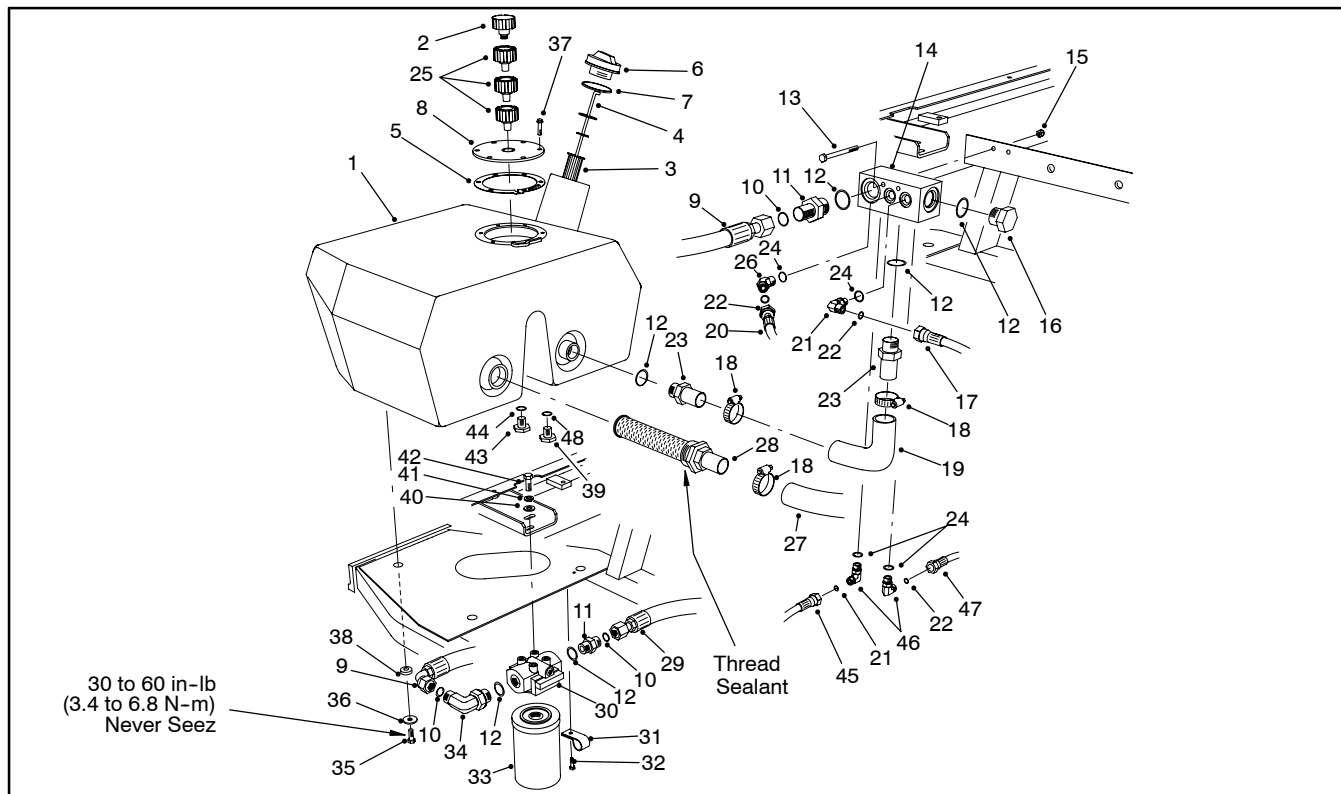

Figure 107
4. Remove oil tank using Figure 107 as a guide.
1. Install reservoir using Figure 107 as a guide.